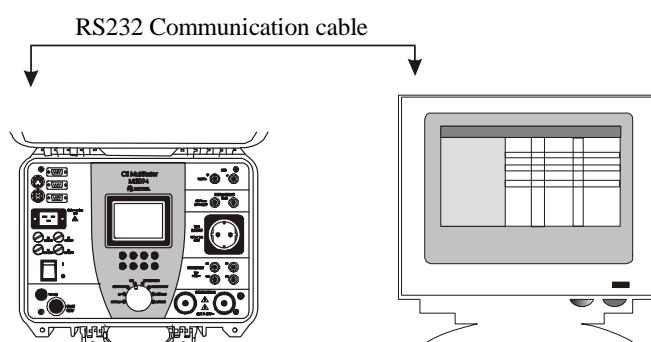

Fig. 53. Connection of CE MultiTester to PC by RS232 or USB interface cable
STEP 1. Connect CE MultiTester to PC as shown in fig. 53 using appropriate RS 232 or USB communication cable.